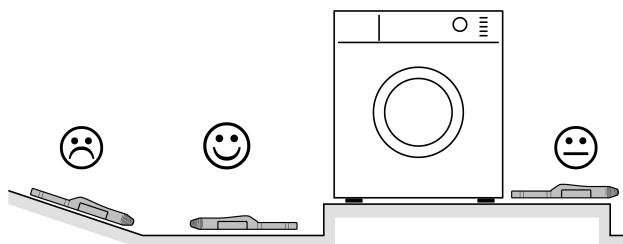

Figure 3: Appropriate and inappropriate locations for fitting
- i** Do not place the device on sloping surfaces, ridges or pedestals (Figure 3). Look for an appropriate installation location at which escaping water can be detected early.
- Place the device directly on the surface that is to be monitored. The sensor surface (3) must point downwards.
- i** The vent opening (4) may not be used to mount the device.
- i** For proper function, liquid must be able to reach the sensor surface (3).
- i** The vent opening (4) supports the sensor function and should be free of dirt.